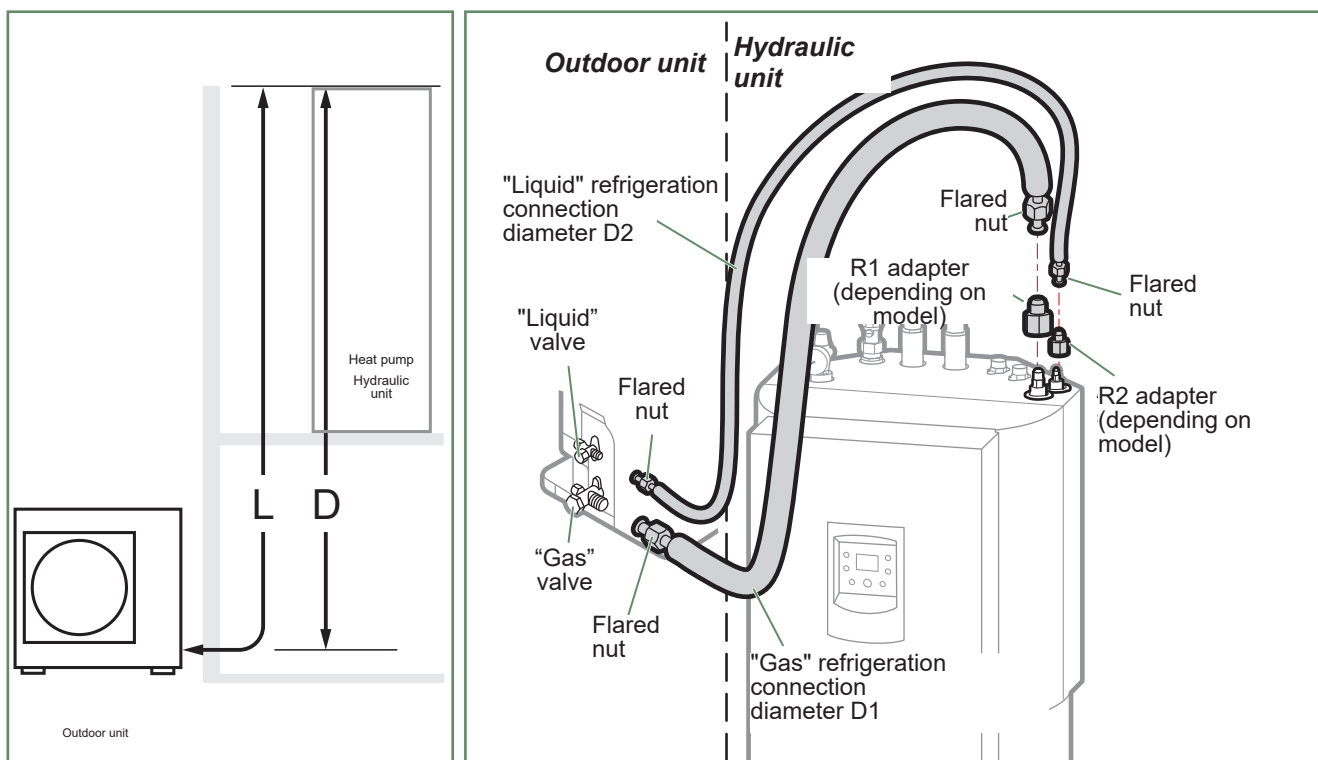

fig. 28 - Refrigerating link connection (accepted diameters and lengths)
- Where necessary, connect an adapter (reducer) 3/8" - 1/4" or 5/8" - 1/2" (fig. 28).